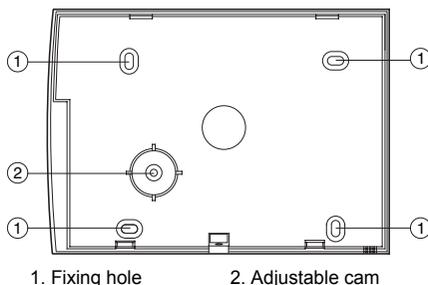

Figure 5. Backplate of the 9930 EUR Keypad
The backplate of the 9930 keypad (see Figure 5) contains an adjustable cam that you can use to make sure the tamper switch will operate correctly when the keypad is mounted on an uneven surface.
3. Hold the backplate in place against the wall and mark the position of the centre hole in the adjustable cam (item 2 in Figure 5).
5. Make sure the backplate is level. Mark, drill and plug at least two more fixing holes (item 1 in Figure 5). Screw the backplate to the wall through the holes.
1. Remove the front cover from the keypad(s) to which you intend to fit the module. Remove the cable clips (item 4 in Figure 5).